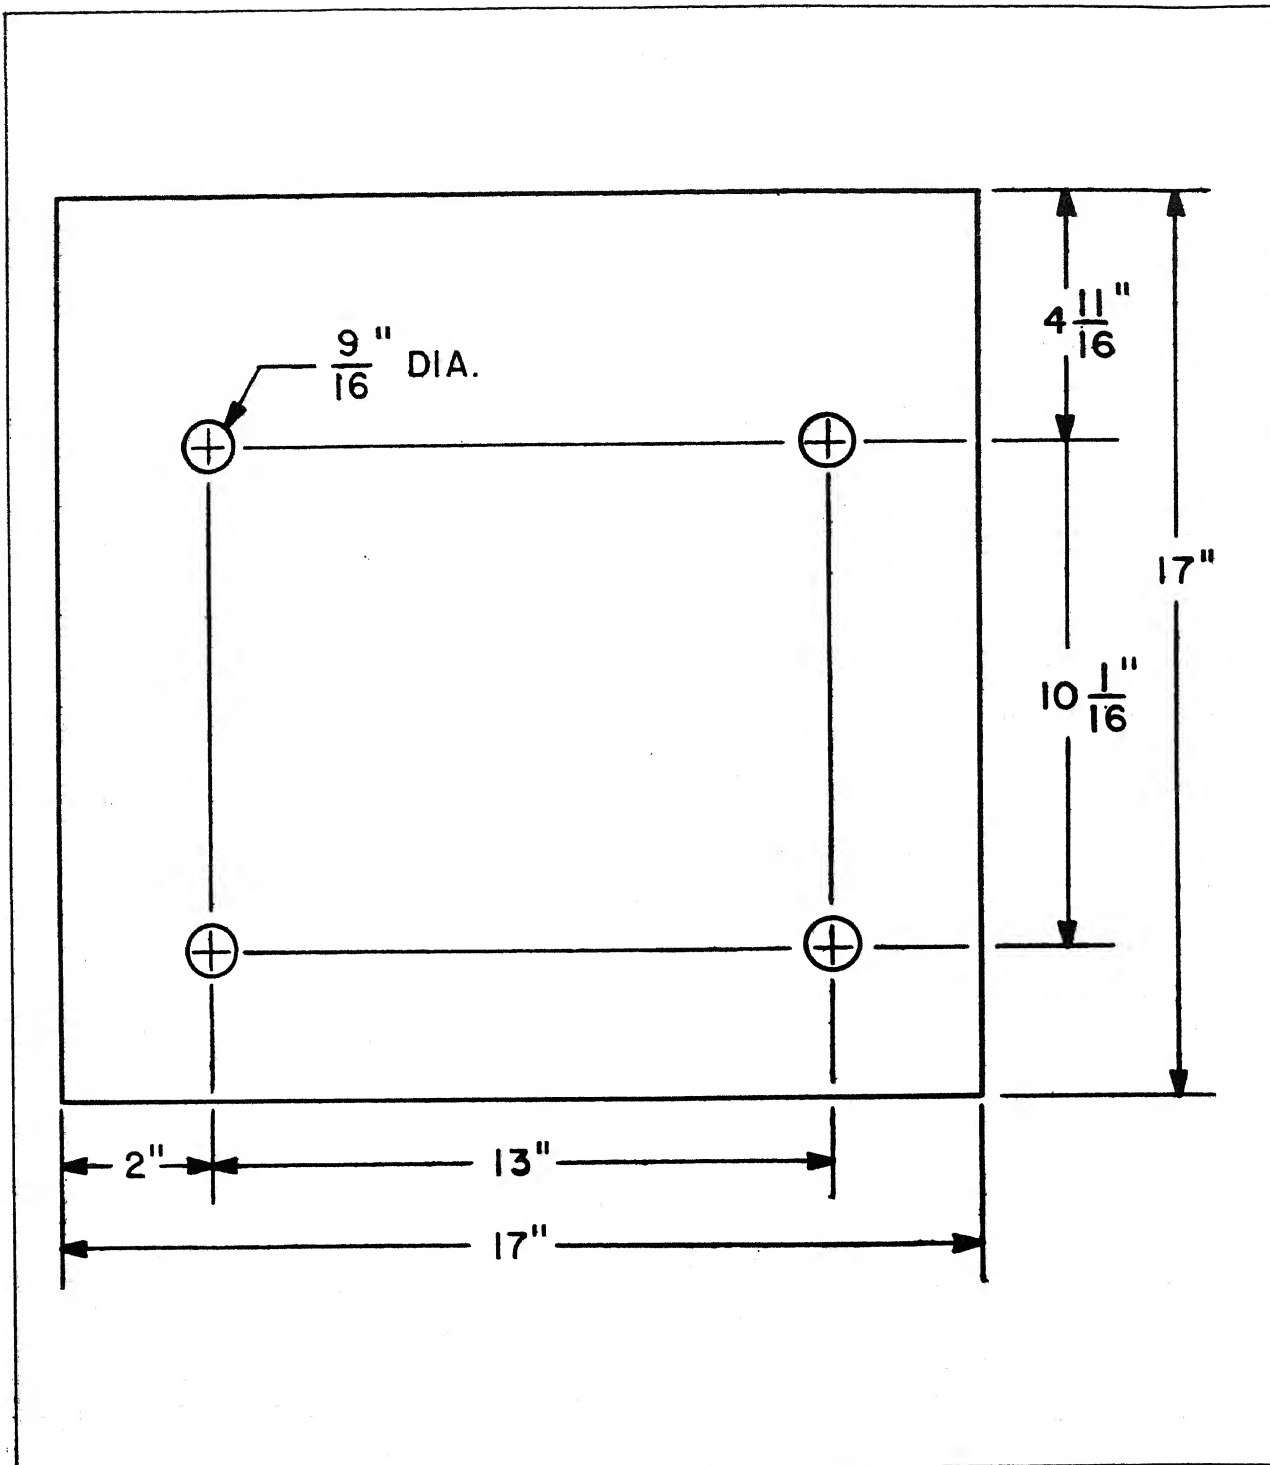

Figure 4-1. Base Plan.
STEP 1 - REMOVE COVER PLATE FROM BLOCK OFF PLATE AND INSTALL ELECTRICAL CONNECTOR FROM REAR. SECURE WITH SCREWS (4).
STEP 2 - REPLACE CONTROL BOX WITH BLOCK OFF PLATE AND SECURE WITH SCREWS (4).
c. **Installing Unit.** Bolt unit to the floor or other flat surface. Refer to base plan (fig. 4-1) for dimensions. An additional fastening device (fig. 1-2) is located on the upper rear side for additional mounting rigidity if required. Connect drain hose to drain fitting at bottom of unit to lead condensate away from unit. The unit is provided with four drain plugs installed, one on each side of unit. Remove plug prior to installing the drain hose.
- (1) Model VM 6000-115 operates on 115-volts, 60 hertz, single phase.
- (2) Model VM 6000-400 operated on 208-volts, 400 hertz, three phase.